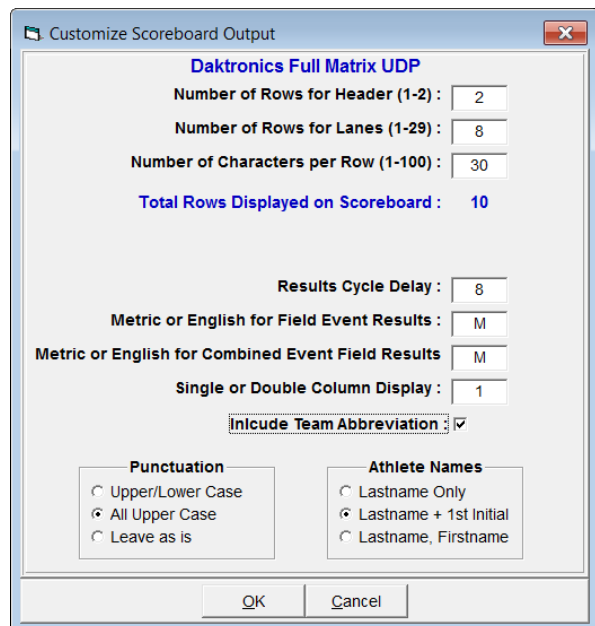

Figure 45: Customize Scoreboard Output - Daktronics Full Matrix (UDP)
7. Go to **Interfaces > Scoreboard – Daktronics Full Matrix > Customize (Figure 45)**.